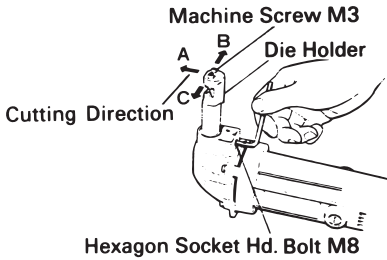
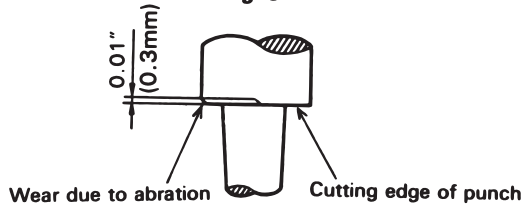

Fig. 4
Fig. 7
Inspect for looseness the M8 hexagon socket set screw used for mounting the die holder, the M3 machine screws used for mounting the die (see Fig. 4) and the M5 hexagon socket set screw used for mounting the punch (see Fig. 7). Caution should be exercised because, if any of these screws are loose, not only does cutting performance deteriorate but the machine can also be damaged.
- (1) The cutting direction of this machine can be rotated in  $90^\circ$  increments in 3 directions (A, B and C) (see Fig. 4) by loosening the M8 hexagon socket set screw mounting the die holder. Set the cutting direction in the B or C direction to cut trapezoidal plates. After that, securely tighten the M8 hexagon socket set screw.
When the machine is used according to the service life indicated in the above table, the punch will have abrasions as shown in the enlarged diagram of the worn punch in Fig. 7. This is when the punch and die should be replaced.
- (a) Loosen the M8 hexagon socket set screw mounting the die holder (see Fig. 4) and remove the die holder.